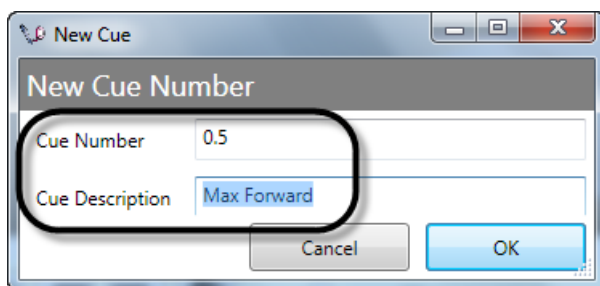

Figure 42
2. Enter a **Cue Number** and a **Cue Description** in the **New Cue** dialog box and click **OK** (Figure 42).